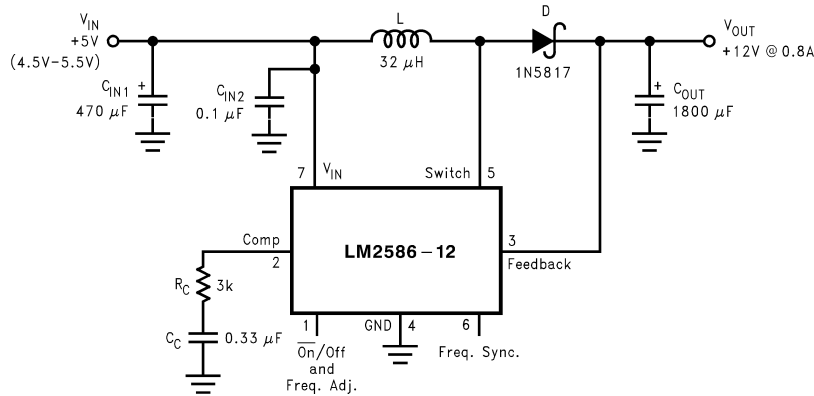

Figure 20. 12-V Boost Regulator
Figure 20 shows the LM2586 used as a step-up (boost) regulator. This is a switching regulator that produces an output voltage greater than the input supply voltage.
A brief explanation of how the LM2586 boost regulator works is as follows (refer to Figure 20). When the NPN switch turns on, the inductor current ramps up at the rate of V_{IN}/L , storing energy in the inductor. When the switch turns off, the lower end of the inductor flies above V_{IN} , discharging its current through diode (D) into the output capacitor (C_{OUT}) at a rate of $(V_{OUT} - V_{IN})/L$. Thus, energy stored in the inductor during the switch on time is transferred to the output during the switch off time. The output voltage is controlled by adjusting the peak switch current, as described in .
By adding a small number of external components (as shown in Figure 20), the LM2586 can be used to produce a regulated output voltage that is greater than the applied input voltage. The switching waveforms observed during the operation of this circuit are shown in Figure 21. Typical performance of this regulator is shown in Figure 22.